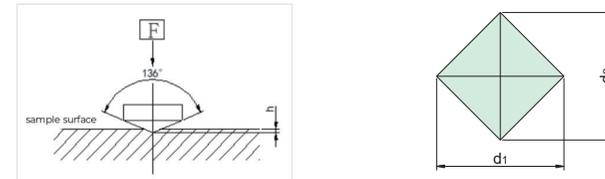

Figure 1.1 Vickers Test Principle
The Vickers hardness test involves using a 136 ° rhombic diamond indenter to press the surface of the tested object with a specified test force (F). After maintaining the test force for a specified time, the test force is removed, and the indentation diagonal (d) on the surface of the test piece is measured using a micrometer eyepiece. The average pressure (N/mm²) borne by the conical surface area of the indentation is calculated, which is the Vickers hardness value. (See Figure 1.1 for details).